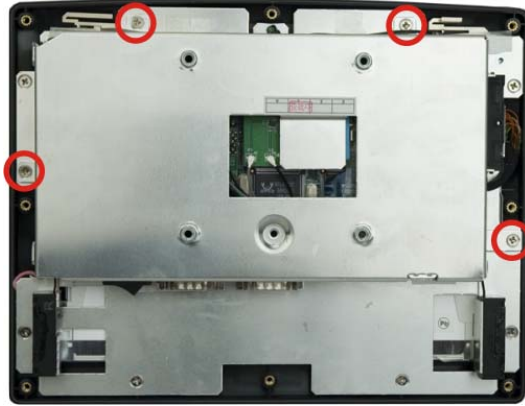

Figure 4-3: AFL-08AH-LX Aluminum Back Cover Retention Screws
Step 1: Remove the four retention screws (Figure 4-3).